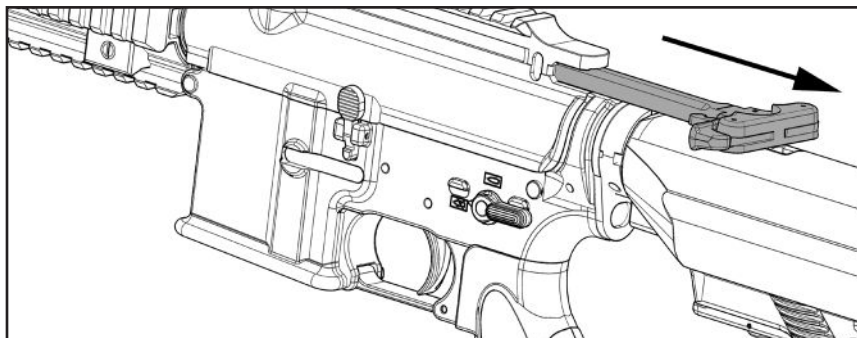

Fig. 29
2. Pull the charging handle rearward to open the bolt and lock it to the rear (Fig. 29).